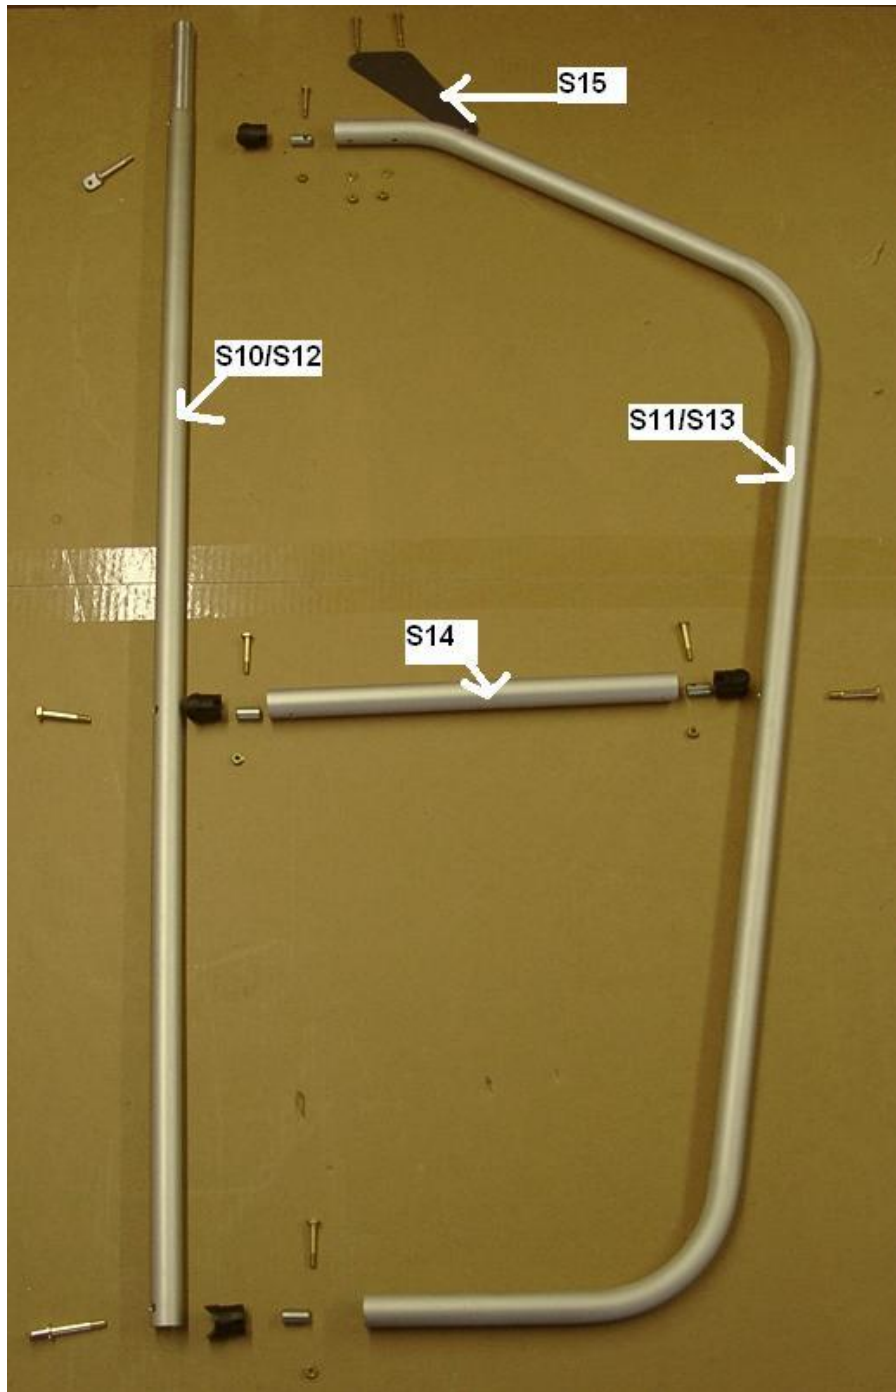

Figure 69 – Elevator
Figures 69 thru 70 - Elevator
Install (2) tube connectors TC1 and (2) inserts TC2 into each of right elevator trailing edge S11. Repeat in left Trailing edge S13. Use (3) AN3-12A bolts and (3) N3S to retain. Note: retaining bolt in right inboard fitting is common with forward mounting bolt of elevator belcrank S15. Install AN3-14A temporarily VEL-CRO side of gap seal should be to the top side of elevator. Position right leading edge S10 into right and left leading edge S12 into left side. Secure with (4) eyebolts AN43-15A. Melt holes in sail for mounting bolt for (2) spreader tubes S14. Install spreaders as depicted in Figure 69 and install (4) AN4-15A bolts. Tighten. Remove AN3-14A bolt temporarily installed in right inboard fitting. Position belcrank S15 and secure with (2) bolts AN3-14A, (2) W3, and (2) N3. Rear bolt may be reached with nut and washer taped to wrench or you may make a small slit from under side to allow access and patch with sail repair material. Position elevator halves through keel openings and join inside keel with (2) AN3-13A bolts, (2) W3 and (2) N3. (4) AN3-5A hinge bolts through eyebolts. (Make sure eyebolts are in proper position for freedom of hinge movement.) Place (4) W3P washers between eyebolts at each hinge point. Secure with (4) N3S. Tighten but allow to pivot freely.